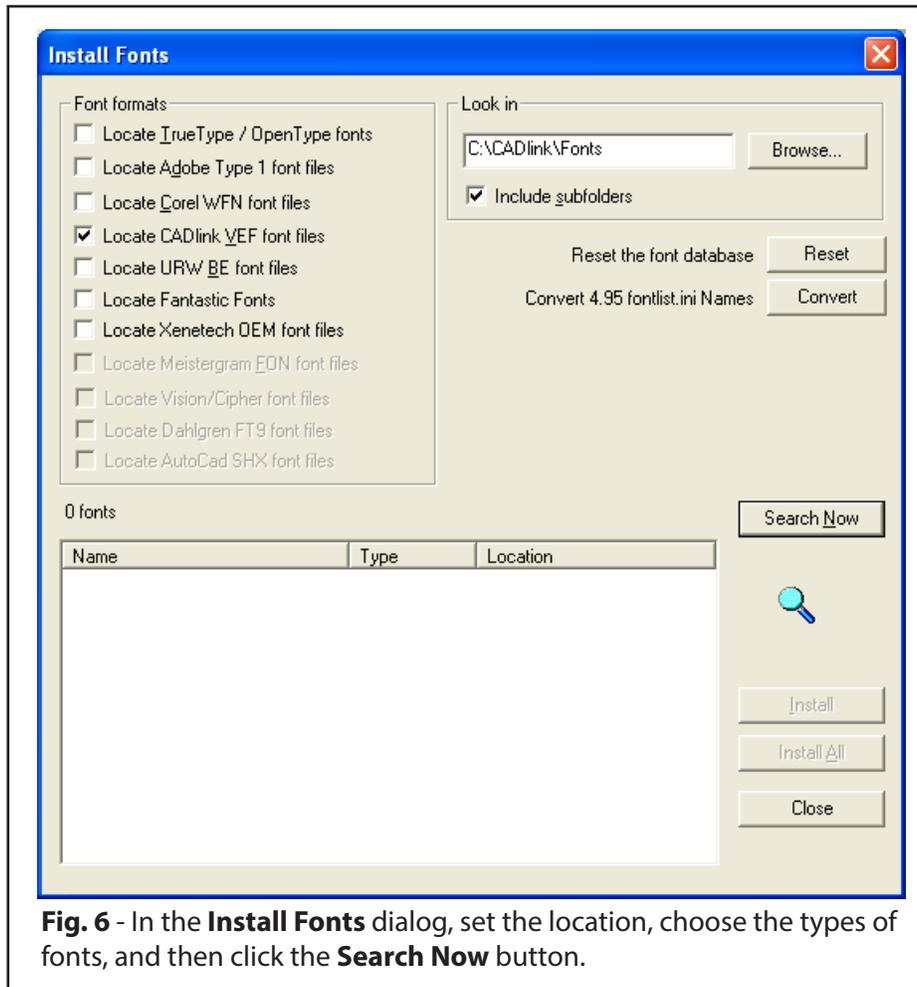

Fig. 6 - In the **Install Fonts** dialog, set the location, choose the types of fonts, and then click the **Search Now** button.
4. The **Install Fonts** dialog will open (Fig. 6). In the **Font formats** section, just check the “Locate CADlink VEF font files” option.